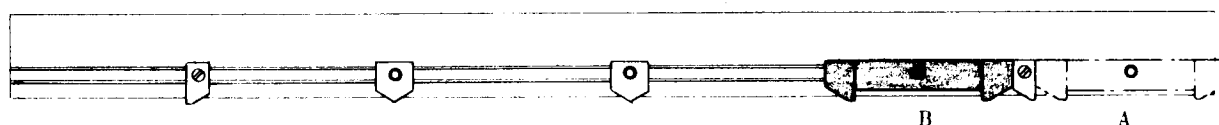

Fig. 1
*For this reason, the special DOUBLE STOP which is fixed to point "A" as per fig. 1 will have to be removed to point "B" and fixed there again.*